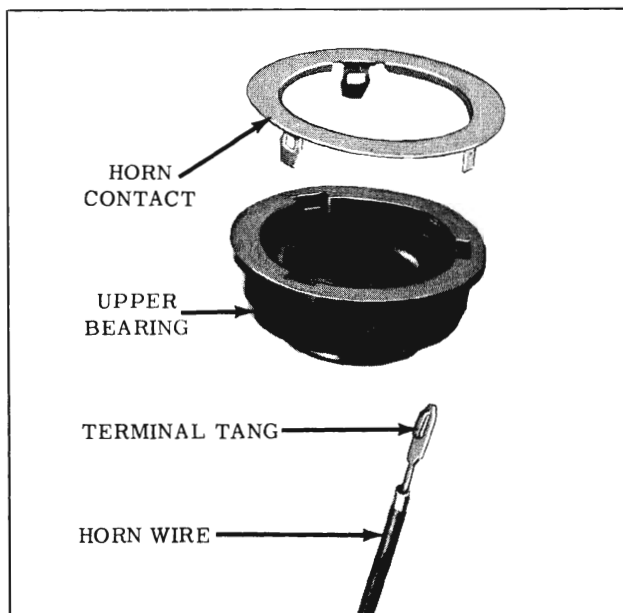

Fig. 4-77 Horn Contact and Bearing
5. Prior to assembly, bend horn wire terminal tang if necessary so that it will lock in horn contact. (Fig. 4-77)